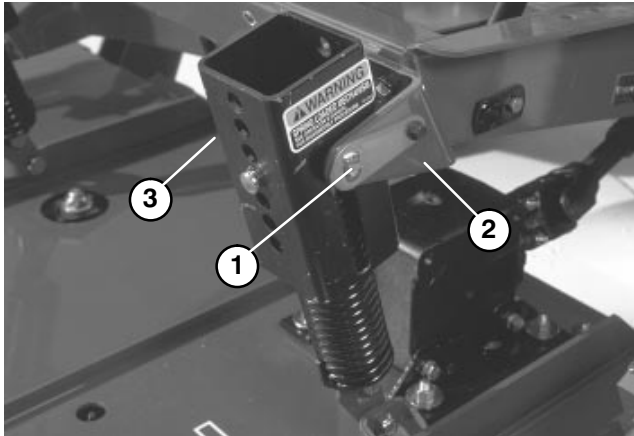

Figure 22
2. Disconnect counterbalance from traction unit, remove lock pins from brackets, separate spring tension assemblies from brackets and lay them down on the deck. Loosely secure lock pins to brackets to prevent losing them (Fig. 22).